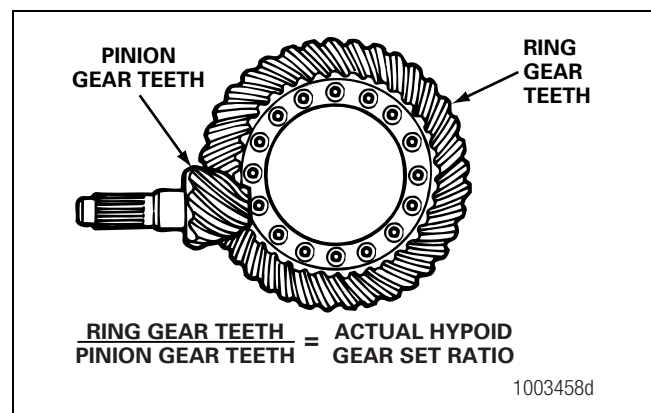

Figure 4.21
1. Count the number of ring gear teeth. Figure 4.21.
2. Count the number of pinion gear teeth. Figure 4.21.
3. Divide the number of ring gear teeth by the number of pinion gear teeth to determine the actual hypoid gear set ratio for each axle. Figure 4.21.